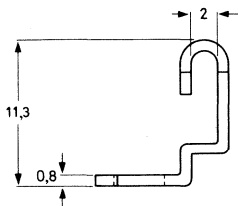

Fig. 4a. Metal mounting bracket
- metal bracket for panel mounting (catalogue number 4332 026 04750), Fig. 4a;